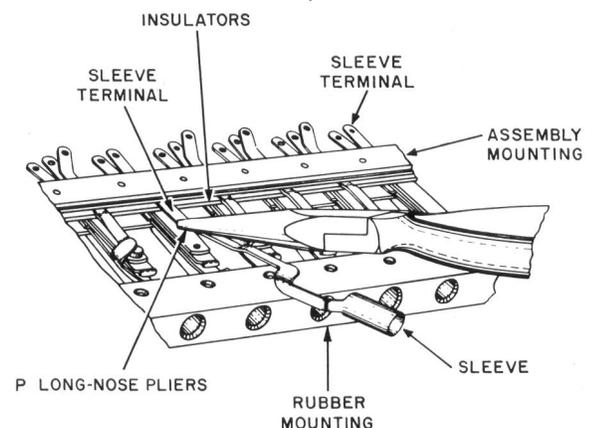
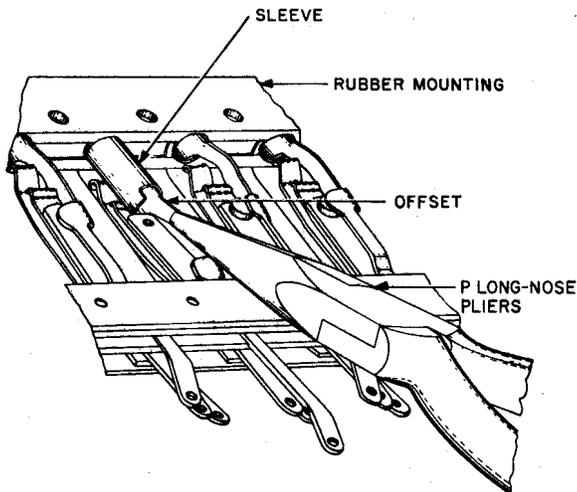

Fig. 10—Method of Forcing Sleeve Terminal into Assembly Mounting in 92- and 292-Type Jacks
Fig. 11—Method of Forcing Sleeve Forward into Rubber Mounting on 92-, 229-, and 292-Type Jacks
3.17 On 92- and 292-Type Jacks: Force the sleeve terminal into the assembly mounting from the front with the P long-nose pliers as shown in Fig. 10 until the front end of the sleeve just clears the back of the rubber mounting. Exercise care not to crack the insulators. If the sleeve terminal has been forced through the assembly mounting as far as possible, and if in this position the front end of the sleeve does not clear the back of the rubber mounting, increase the offset in the sleeve terminal just in back of the sleeve, using the P long-nose pliers. Force the sleeve forward in the rubber mounting by grasping the sleeve terminal with the P long-nose pliers at the offset as shown in Fig. 11 until the portion of the sleeve terminal that holds the stud (high hat bushing) in place is just to the rear of the hole in the stop spring. Insert the stud in the hole in the stop spring, using the P long-nose pliers; then, while depressing the stud with the thumb, continue to force the sleeve into the rubber mounting, making sure the stud slips under the sleeve terminal.
3.18 On 229-Type Jacks: Force the sleeve forward in the rubber mounting, as for the 92- and 292-type jacks, by grasping the sleeve terminal with the P long-nose pliers just behind the sleeve, similar to Fig. 11. Continue forcing the sleeve forward until the sleeve is flush with the front of the rubber mounting.